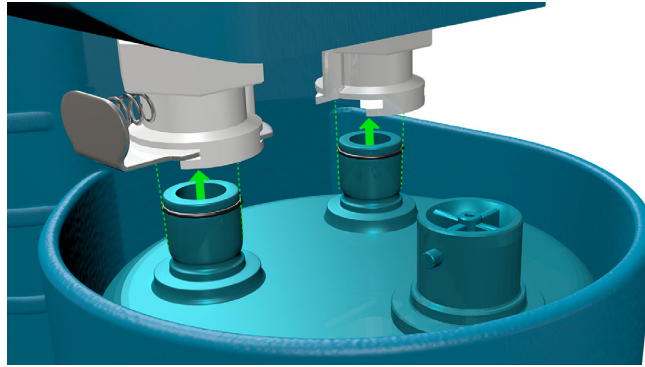

Figure 14
1. To insert the canister, line up the two ports on the canister with the two ports on the CATALYST™. Press the canister up and into the CATALYST™ until it clicks and locks into place (**Figure 14**).